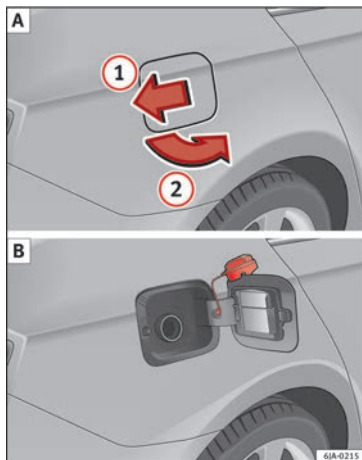

Fig. 107 Vehicle as seen from the rear right: fuel tank flap/fuel tank flap with tank unscrewed cap attached.
The correct type of fuel for your vehicle is indicated on a sticker on the inside of the fuel tank flap, along with the tyre size and pressure » Fig. 107 B.
- Press the flap in the direction of the arrow ① » Fig. 107.
- Open the cover in the direction indicated by the arrow ②.
- Unscrew the tank cap anti-clockwise and place it on top of the tank flap » Fig. 107 B.
- Once the vehicle has been unlocked using the central locking button, press the fuel flap in the direction of the arrow ① » Fig. 107.
– Unscrew the tank cap anti-clockwise and place it on top of the tank flap » **Fig. 107** .